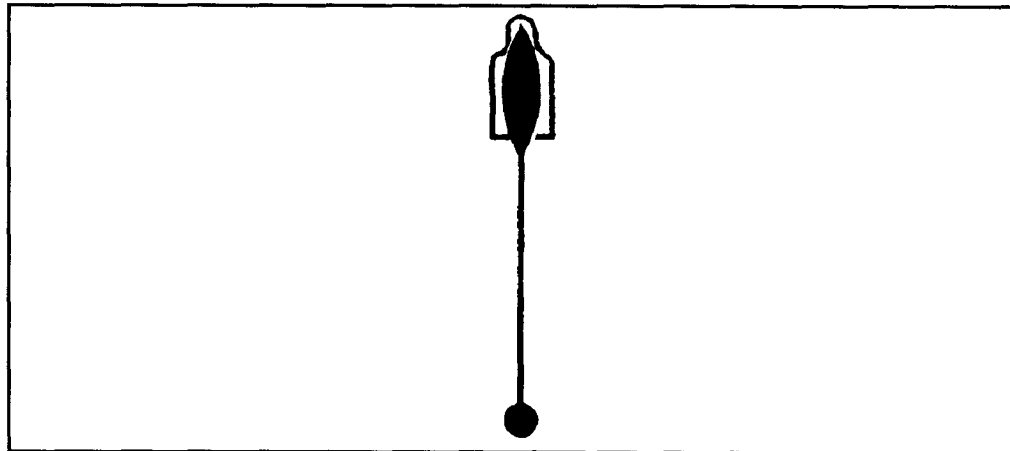

Figure 6-10. Engagement of point target.
(1) *Point target.* When engaging a point target, the automatic rifleman uses fixed fire (Figure 6-10). If the target moves after the initial burst, the automatic rifleman adjusts fire onto the target by following its movement.